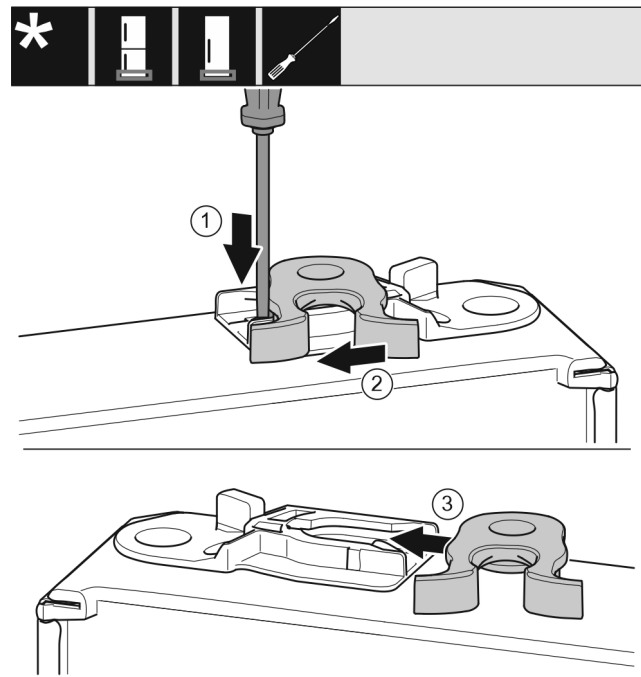

Fig. 17 *
- ▶ Push the lug downward with a slotted screwdriver. Fig. 17 (1)*
- ▶ Pull the door latch out of the guide. Fig. 17 (2)*
- ▶ Push the door latch into the guide on the other side. Fig. 17 (3)*